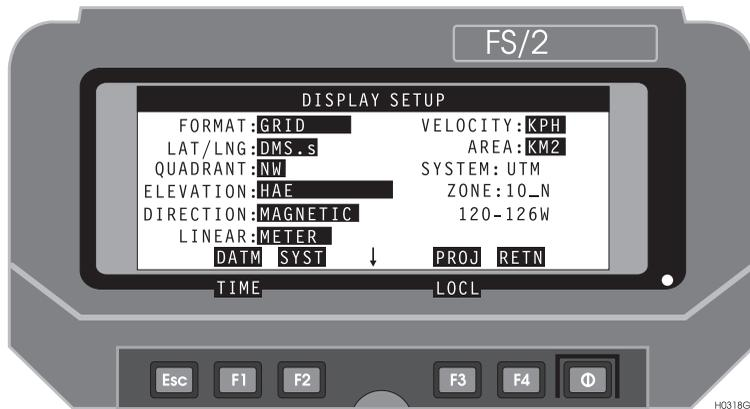

Figure 3.35: Display Setup Screen
8. Press Shift F1 (DSST), calling the Display Setup screen, Figure 3.35.